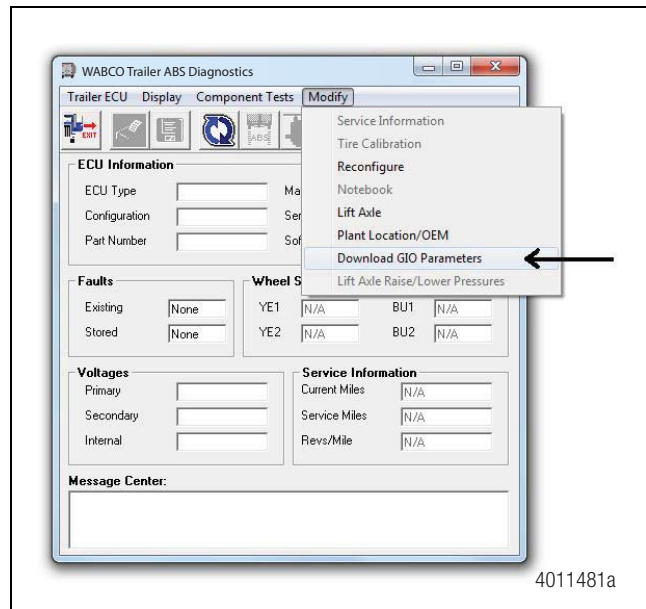

Figure 13
1. From the opening screen of the ABS portion of TOOLBOX™ Software, activate the **Modify** pull-down menu and select the **Download GIO Parameters** menu option. Figure 13.